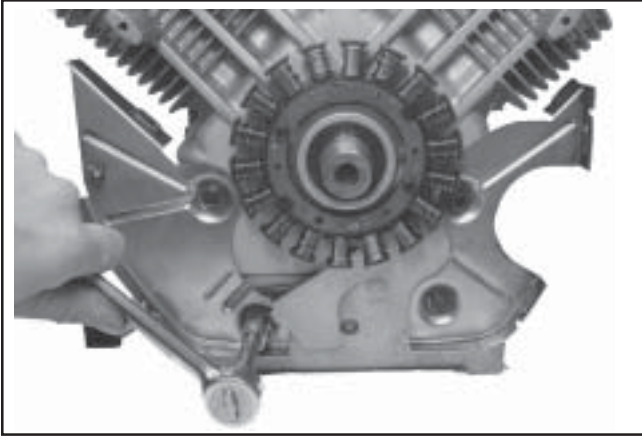

Figure 9-64. Removing Backing Plates and Stator Wire Bracket.
1. Remove the four hex flange screws securing the backing plates and stator wire bracket (if equipped). See Figure 9-64. Remove the backing plates and stator wire bracket.